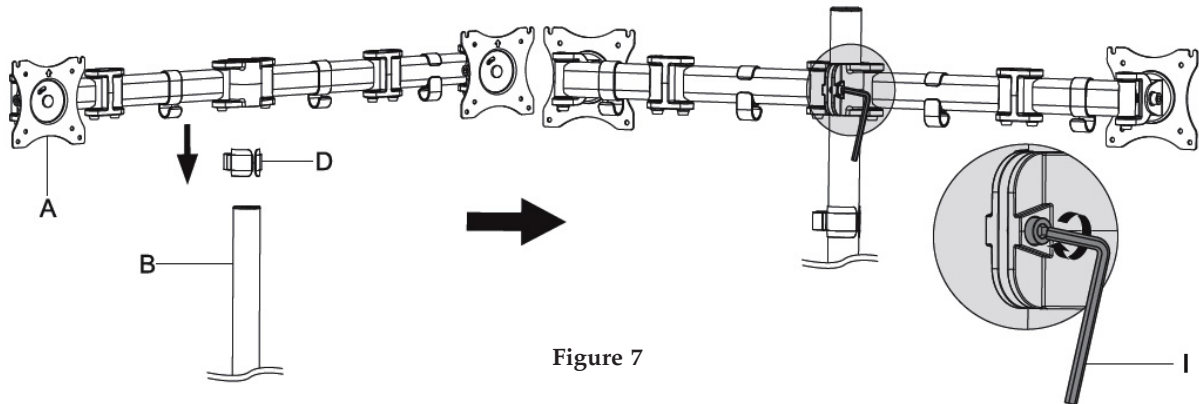

Figure 7
2. Install the Cable Management Clip (D) and Vesa Plate with Arm (A) to the Tube Support (B). Tighten the clamp bolt using the 5mm Allen Key (I), see **Figure 7**. **Important:** Install the Vesa Plate with Arm with the orientation that the Allen head end of each swivel joint is pointing upwards.